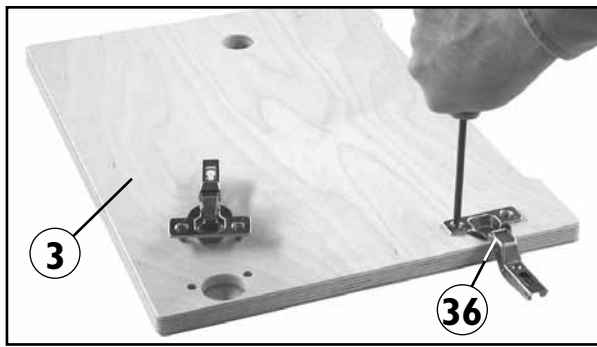

Fig. 1
1. Press the hinge "cups" (36) into the large bore in the door (3). **Fig 1.** With a Phillips screwdriver, tighten the integral hinge cams clockwise approximately 1/4 turn. Do not over tighten the cams.